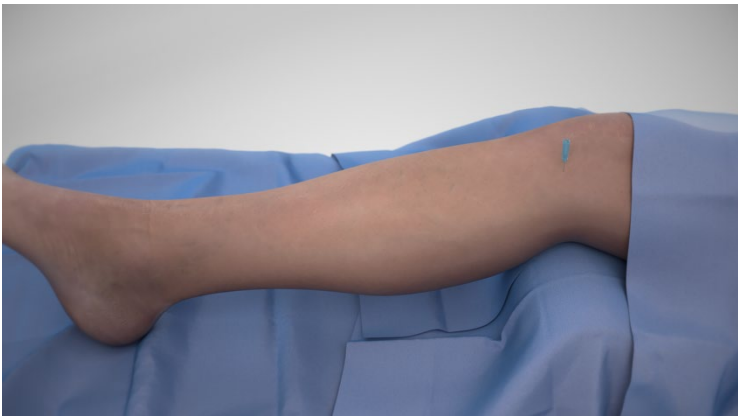

Figure 1
1. Using fluoroscopic or ultrasound guidance, identify the targeted nerve with anatomical landmarks and place a marker needle at the desired location for electrode placement. (Figure 1)